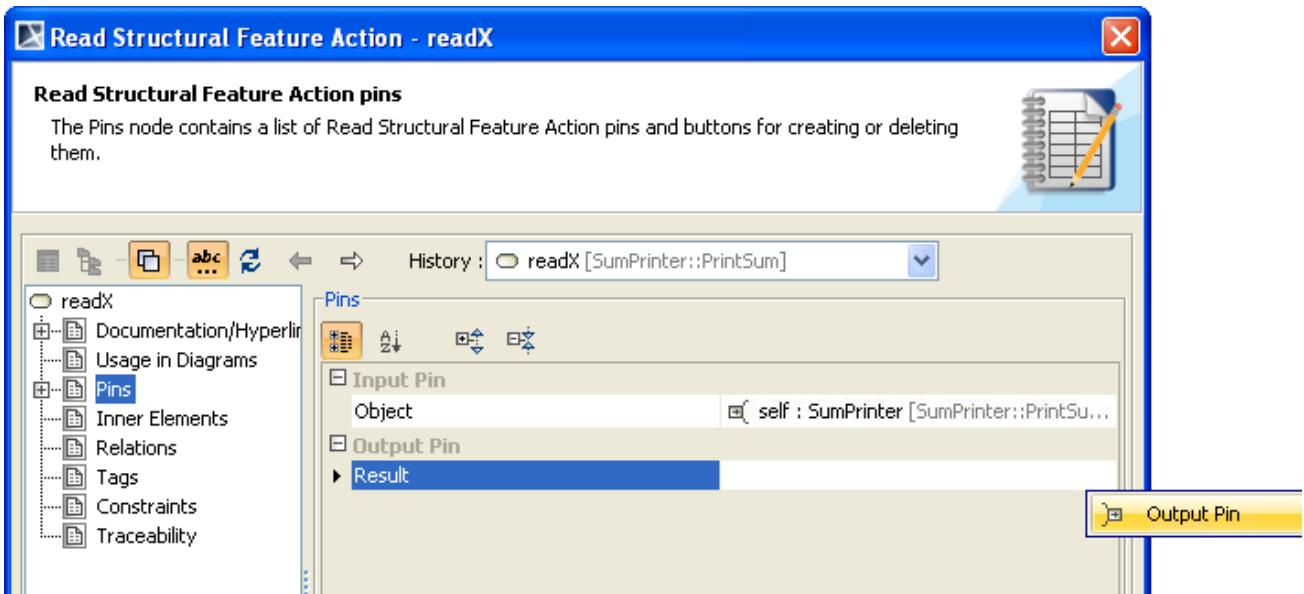
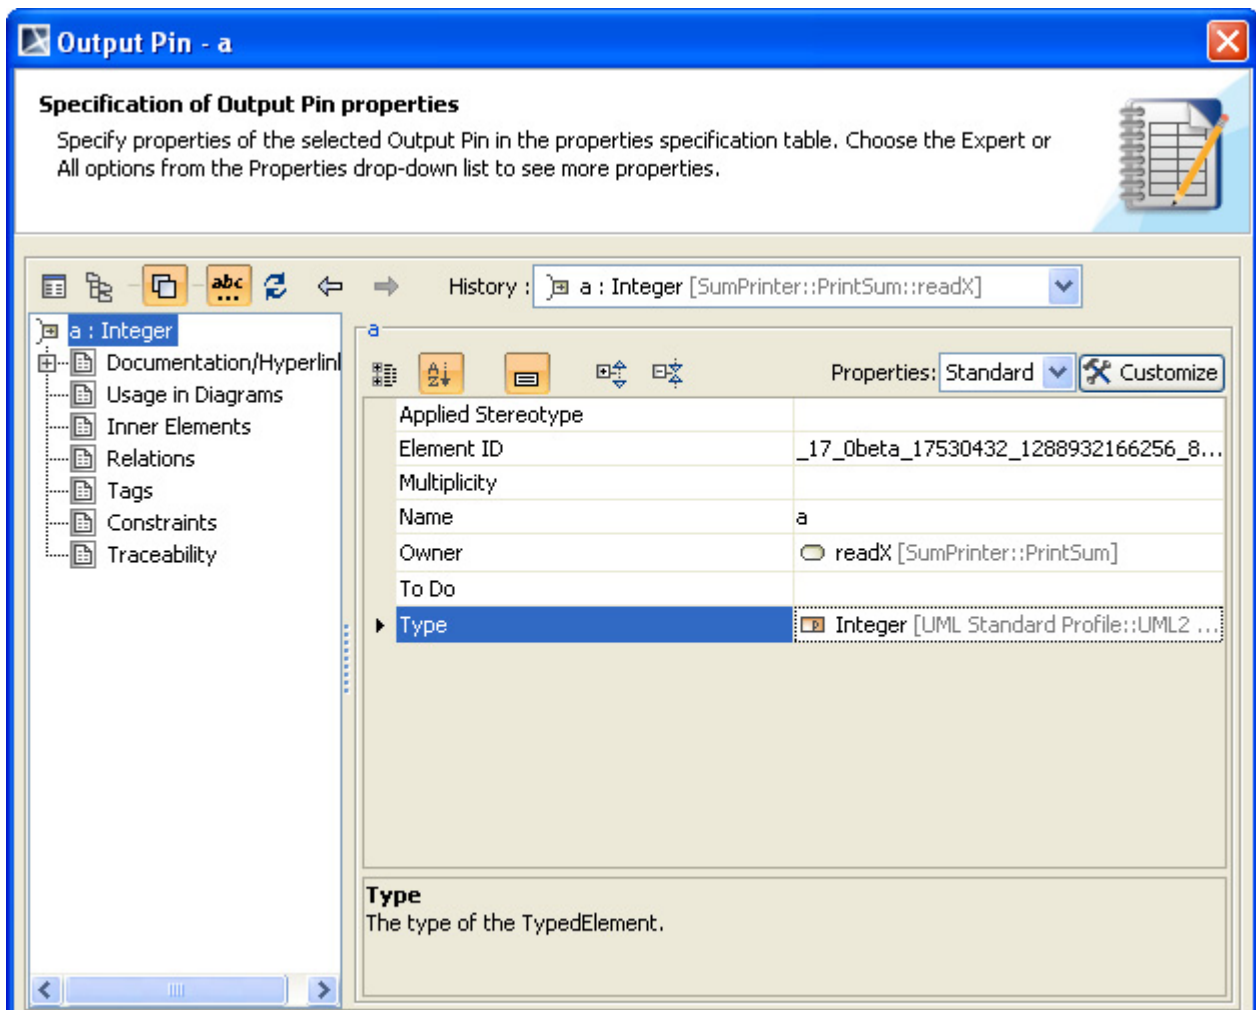

Figure 62 -- Adding Output Pin to readX Action
Figure 63 -- Naming the Output Pin and Selecting Its Type
- (ii) Click the **Result** button and select **Output Pin** from the context menu (Figure 62). Name this pin "a" and select **Integer** as its type, and then click the **Close** button (Figure 63).